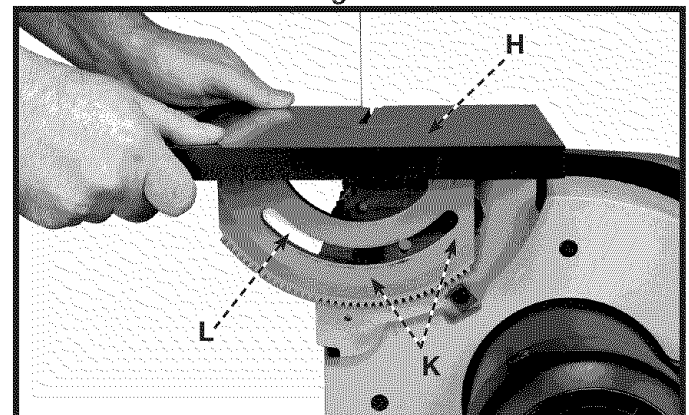

Fig. 11
- Place table (H) Fig. 11 on the band saw frame so that the keepers (K) protrude through the slot of the trunnion (L).